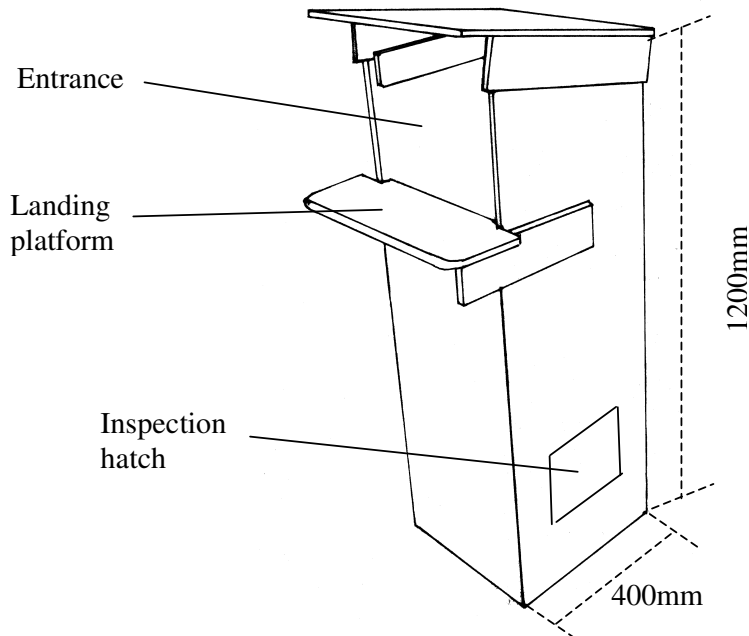

Fig. 1. Square owl nest box
Step 4. Cut and fit landing platform (see Figs. 1 & 3)
Step 8. Cut inspection hole and fit hatch (see Figs 1 & 4), using casement clips to secure into place. Note: if not securing the round cut out of wall to the inner side of the inspection hatch, a minimum of four clips are required.